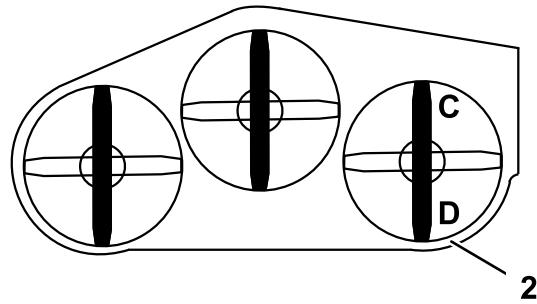

Figure 86
1. Position the right blade front-to-rear (Figure 86).
2. Measure the right blade at the **C** location, from a level surface to the cutting edge of the blade tip and record this measurement (Figure 86).
3. Measure the right blade at the **D** location, from a level surface to the cutting edge of the blade tip and record this measurement (Figure 86).
4. The mower blade should be a 1/4 to 3/8 inch (6 to 10 mm) lower at position **C** than at position **D** (Figure 86). If it is not correct, proceed to the following steps.